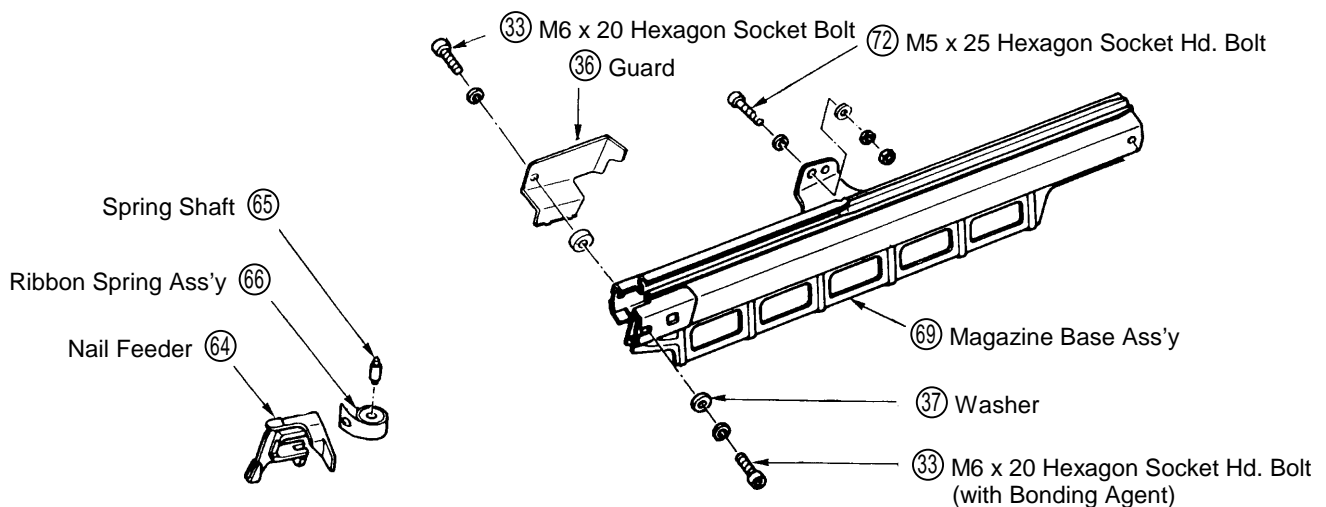

Fig. 15 Disassembly / Reassembly of the Magazine Section
- Shift the Nail Feeder (64) to the Tail Cover (38) side in a state where it is held by the Ribbon Spring Ass'y (66).
- Remove the two M5 x 25 Hexagon Socket Hd. Bolts (72) and the M6 x 20 Hexagon Socket Hd. Bolt (33) on the Guard (36B) side.
- Loosen the front-side M6 x 20 Hexagon Socket Hd. Bolt (33) (opposite from the Guard (36B) side), and withdraw the Magazine Base Ass'y (69) from the Tail Cover (38). The Magazine Ass'y (81), Ribbon Spring Ass'y (66) and related parts can then be disassembled (see Fig. 15).